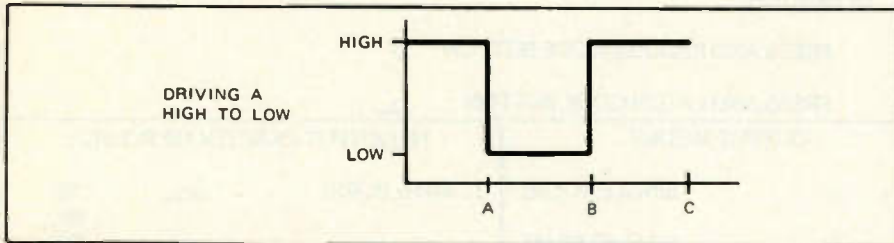

Figure 16. Driving a high node to a low state.
B. Driving a HIGH node to a LOW state: Again, if a circuit is already HIGH, it can be taken LOW by the pulser. It cannot be driven higher if it's already at a HIGH state, so the high portion of the Pulser's output has no effect on the circuit, refer to Figure 16.